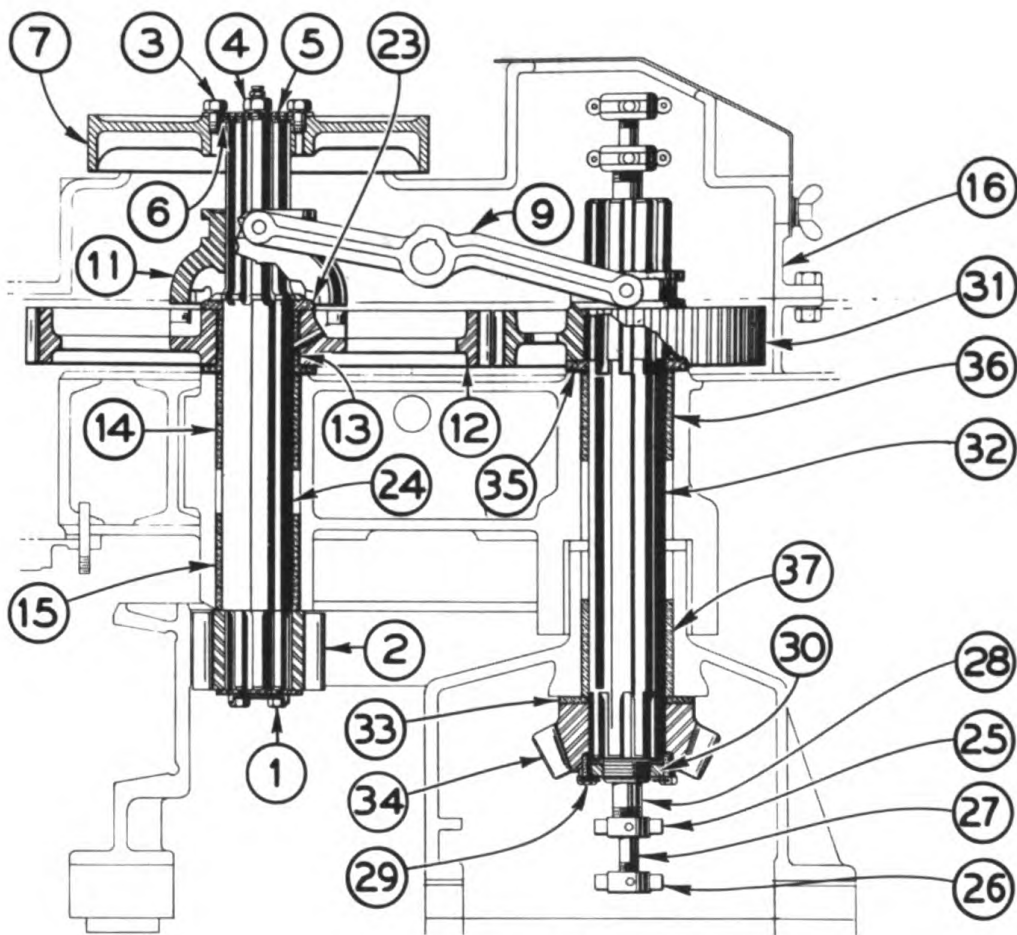

Figure 121
SWING PINION (Figure 121)
Figure 121 and 122 Page 146TO REMOVE:
### VERTICAL TRACTION SHAFT Figures 121 and 122
The bevel pinion (34) Figure 121 and thrust washer (33) Figure 121 may be removed while the lower traction shaft is out by removing yokes (13) and (14), then removing lock screws (29) and unscrewing adjusting nut (30) Figure 121 and sliding the pinion and thrust washer off. When the thrust washer and pinion are replaced, tighten adjusting nut (30) Figure 121 so that the vertical traction shaft has a slight amount of end play, then replace lock screws and wire them together.